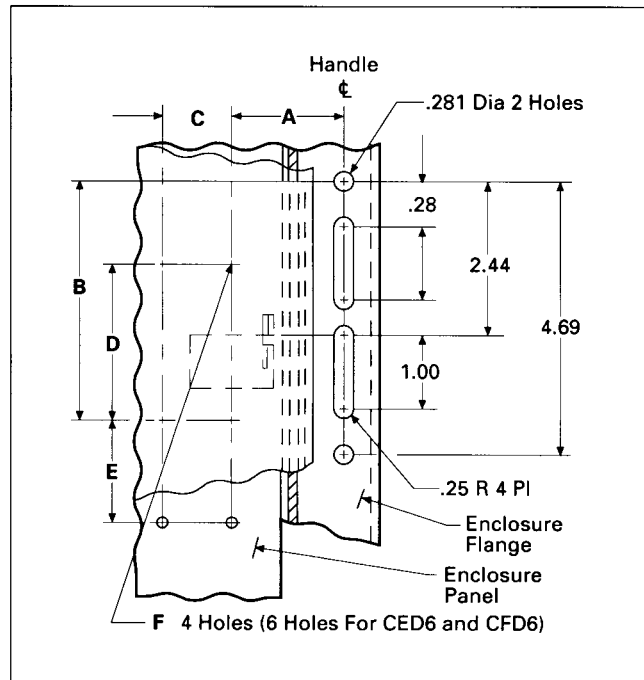

Figure 1
2. Prepare mounting holes in the enclosure flange and the enclosure panel. (See Table below for hole dimensions and illustrations, Figures 1 and 2.)